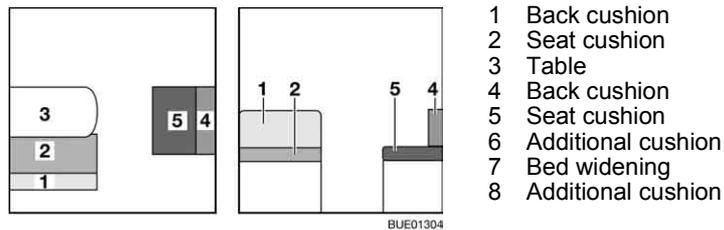

Fig. 131 Prior to conversion
- Convert the table (Fig. 131,3) to a bed foundation (see section 6.11).
- Remove the back cushion (Fig. 131,1) and lay it aside.